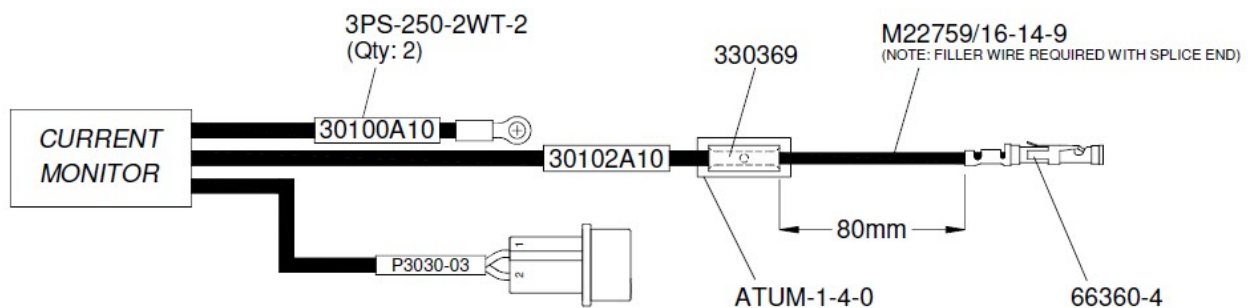

Figure 7: Modification of Wires for Current Monitor
11.2.1.1 Modify the wires for the Current Monitor (p/n: 22-3030-02-00) according to Figure 7.